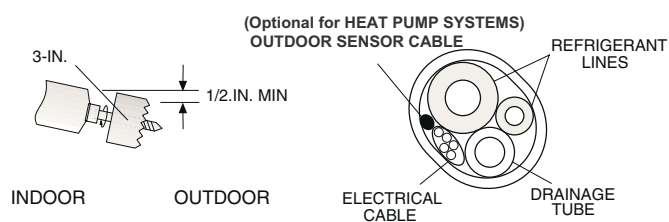

Fig. 5 — Drill Holes
DRILL A HOLE IN THE WALL FOR DRAINAGE AND INTER-UNIT CONNECTIONS — To make the connections between the indoor and outdoor units, drill a 3-in. hole through the wall for the refrigerant lines, drainage hose and control cable passage as shown in Fig. 5.
5. Make sure the drainage hose is at the bottom side of the wall through-hole (see Fig. 5).